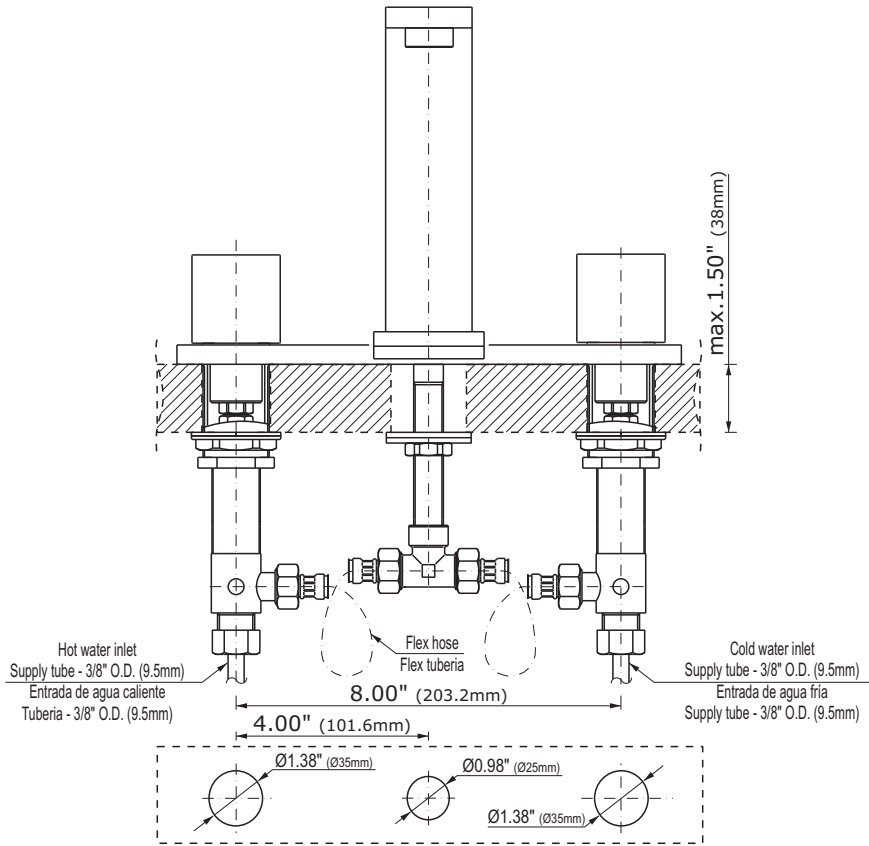

FIG. 1A
- ➔ Insert spout (1) with shank (3) and deck plate through the central hole in the deck. Center spout over hole of mounting surface.
- ➔ From underneath the sink place rubber washer (4), metal washer (5) on the shank (3), then screw on the mounting nut (6). Hand tighten only.
- ➔ Make sure that the spout is in proper position on the sink. Tighten the mounting nut (6) using adjustable wrench.
- ➔ Insert nozzle (8) and seal o-ring (7) into T-connection (9).
- ➔ Screw on the T-connection (9) onto spout shank as shown in fig.1A firmly but do not overtighten.
- ➔ Note the position of the outlet of the valve and make sure it fits the flexible hose connection (18) fig. 1A. If it is ok tighten the counter nut (13), if not move the valve by the required angle. To achieve this do the following:
- secure the handle and the valve with the counter nut (13).